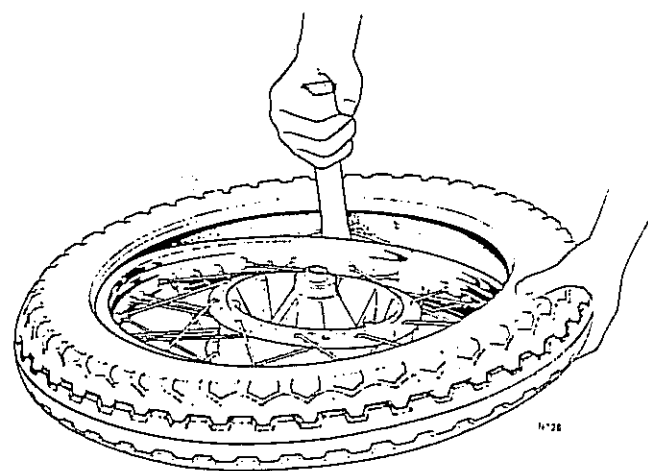

Fig. H22 First bead being levered into the rim
- 6 Pressing this side of the tire into the rim well, and working from the valve, press the first beading over the rim by hand pressure and lever the last few inches into position as in Fig. H22. Take special care that the inner tube is not nipped during this operation.
6 Pressing this side of the tire into the rim well, and working from the valve, press the first bead over the rim by hand pressure and lever the last few inches into position as in *Fig. H22*. Take special care that the inner tube is not nipped during this operation.